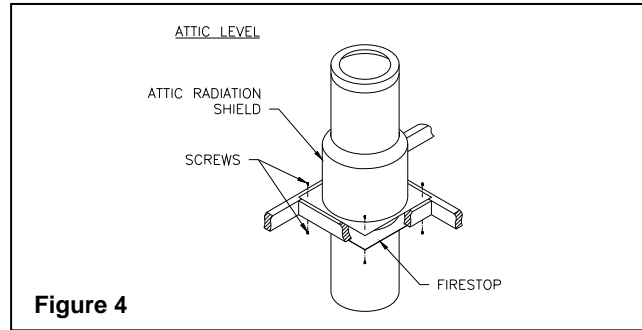

Figure 4
- 5 At the attic level, install a firestop plate (FEA), from below and an attic radiation shield (FP) from above. (Figure 4)